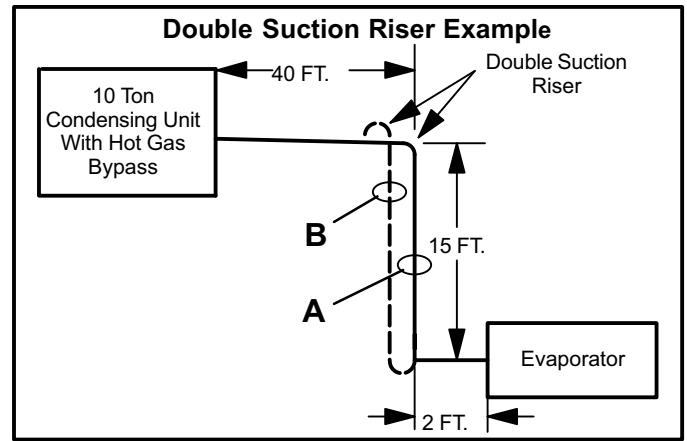

Figure 18
Given: 10-ton condensing unit with hot gas bypass (run-around type). Matched evaporator is located below the condensing unit. Piping will require 57 (linear) feet of pipe (figure 18). Construction without double suction risers will only require 2 ells.
Start by finding the total equivalent feet of the large (B) riser. See figure 18. Fifteen feet of pipe, plus two tees (branch side of tee at 4.5 equivalent feet each), plus four ells (1.8 equivalent feet each) = 31.2 equivalent feet length:
Now, find the total equivalent feet of the small (A) riser. See figure 18. Fifteen feet of pipe, plus one ell (1.5 equivalent feet), plus one tee (branch side of tee at 3.5 equivalent feet), plus one tee (line side of tee at 1.0 equivalent feet) = 21.0 equivalent feet length: